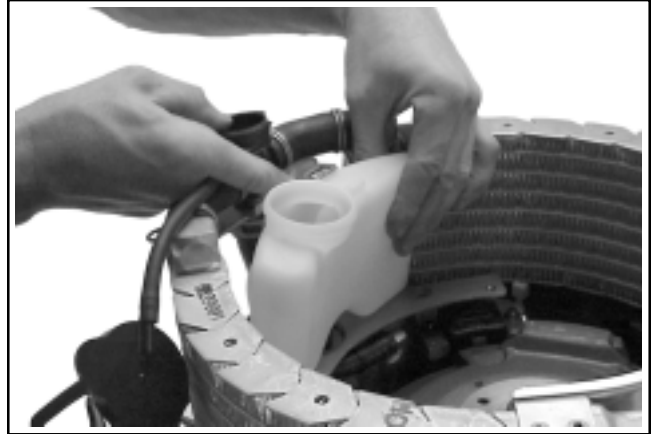

Figure 9-25. Removing the Reservoir.
3. Carefully lift the bracket up slightly to unhook the locking tab, and remove the reservoir from under the bracket. See Figure 9-25.